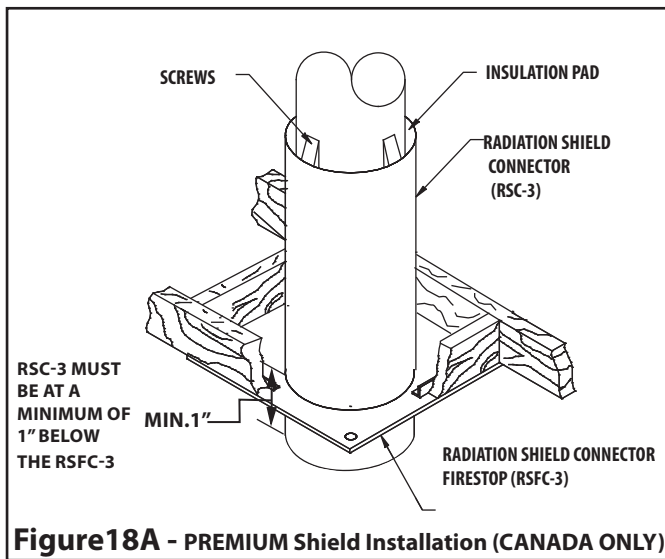

Figure 18A - PREMIUM Shield Installation (CANADA ONLY)
Step 5.2D: At the ceiling level, install a Radiation Shield Connector (RSC-3) and a Radiation Shield Firestop (RSFC-3). Slide the Radiation Shield Connector down until the bottom of the insulated tube extend past the Radiation Shield Firestop as shown in (see **Figure 18A**). Adjust the height until a minimum of (1") of the Radiation Shield Connector extend below the firestop.